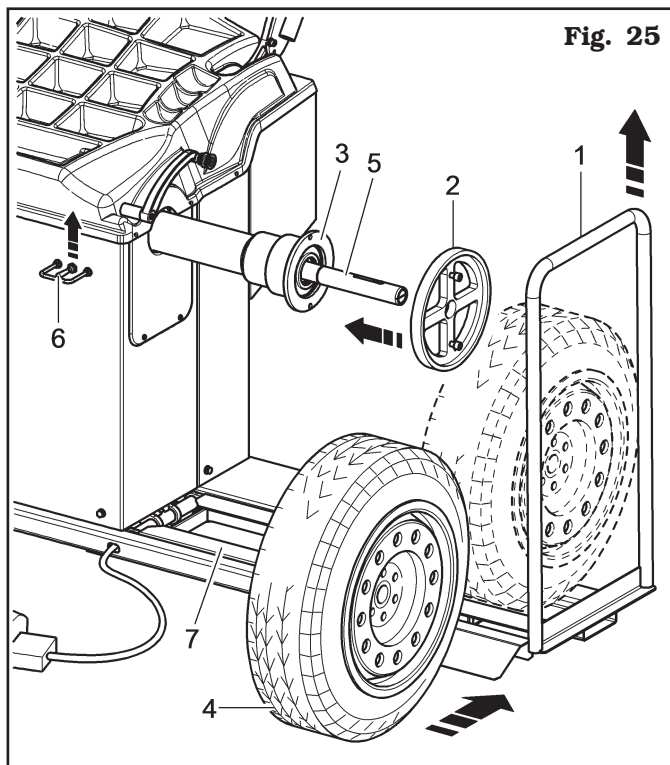

Fig. 25
2. Move rightwards excluded from supply (**Fig. 25 ref. 1**). Fit the adapter flange (**Fig. 25 ref. 2**) on the mandrel flange (**Fig. 25 ref. 3**).
3. Remove any type of foreign body from the wheel (**Fig. 25 ref. 4**): pre-existing weights, stones and mud, and make sure the mandrel (**Fig. 25 ref. 5**) and the rim centring area are clean before fitting the wheel on the mandrel.
4. Place the wheel (**Fig. 25 ref. 4**) on the wheel support (**Fig. 25 ref. 1**) with the rim inner side towards the wheel balancer. Operate the lifting device control (**Fig. 25 ref. 6**) and, keeping it lifted, lift the footboard (**Fig. 25 ref. 7**) and centre manually the wheel on the mandrel, with a minimum strain independently from its weight.
5. Move leftwards excluded from supply (**Fig. 25 ref. 1**).